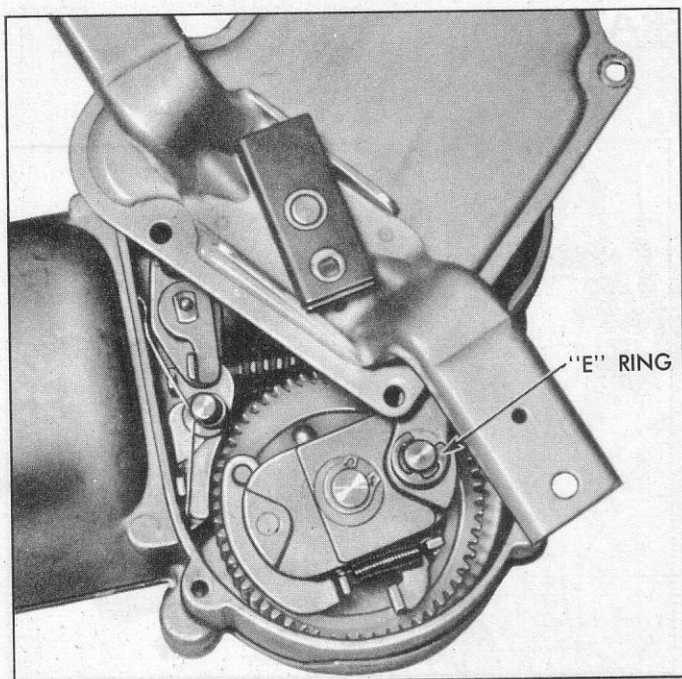
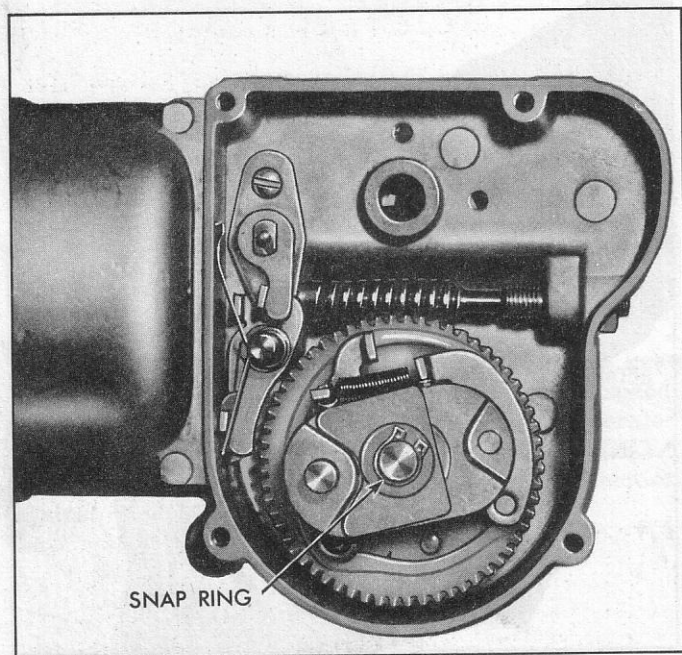
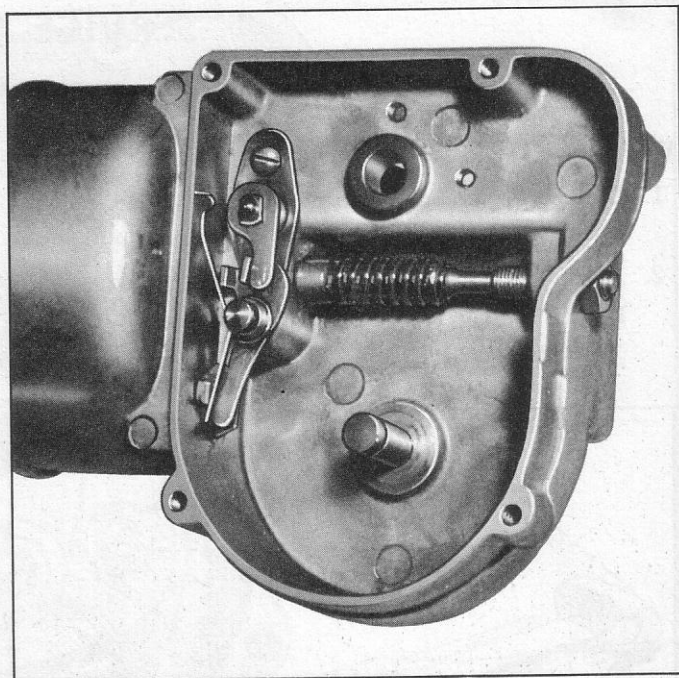

Fig. 8—Gear Cover Rotated to Expose "E" Ring
Fig. 9—Gear Cover and Connecting Linkage Assembly Removed
Fig. 10—Gear Case Completely Disassembled
3. Remove the 4 gear cover screws, lift the cover away from the gear housing as far as possible and then rotate the cover counterclockwise (fig. 8).
4. Remove the "E" ring (fig. 8) and lift the connecting drive linkage and cover assembly from the gear case (fig. 9).
5. Remove the "C" ring and end play washers retaining the drive gear assembly to the pivot shaft (fig. 9). Lift the gear assembly from the shaft (fig. 10).